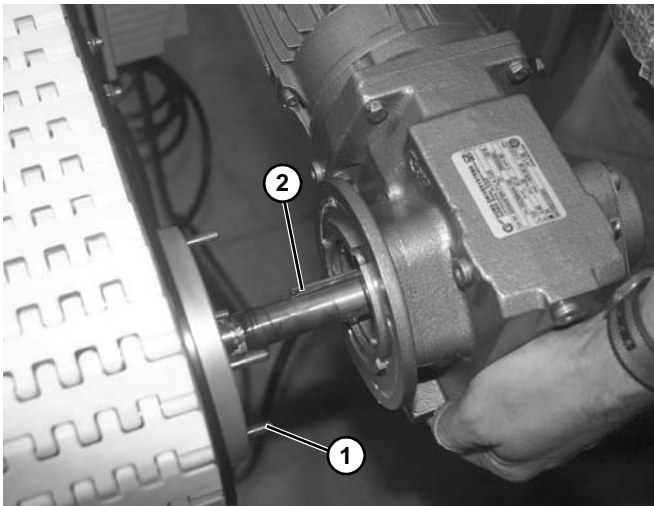

Figure 139
2. Remove drive motor off of motor mounting flange studs (**Figure 139, item 1**), while noting key (**Figure 139, item 2**) on motor drive shaft.